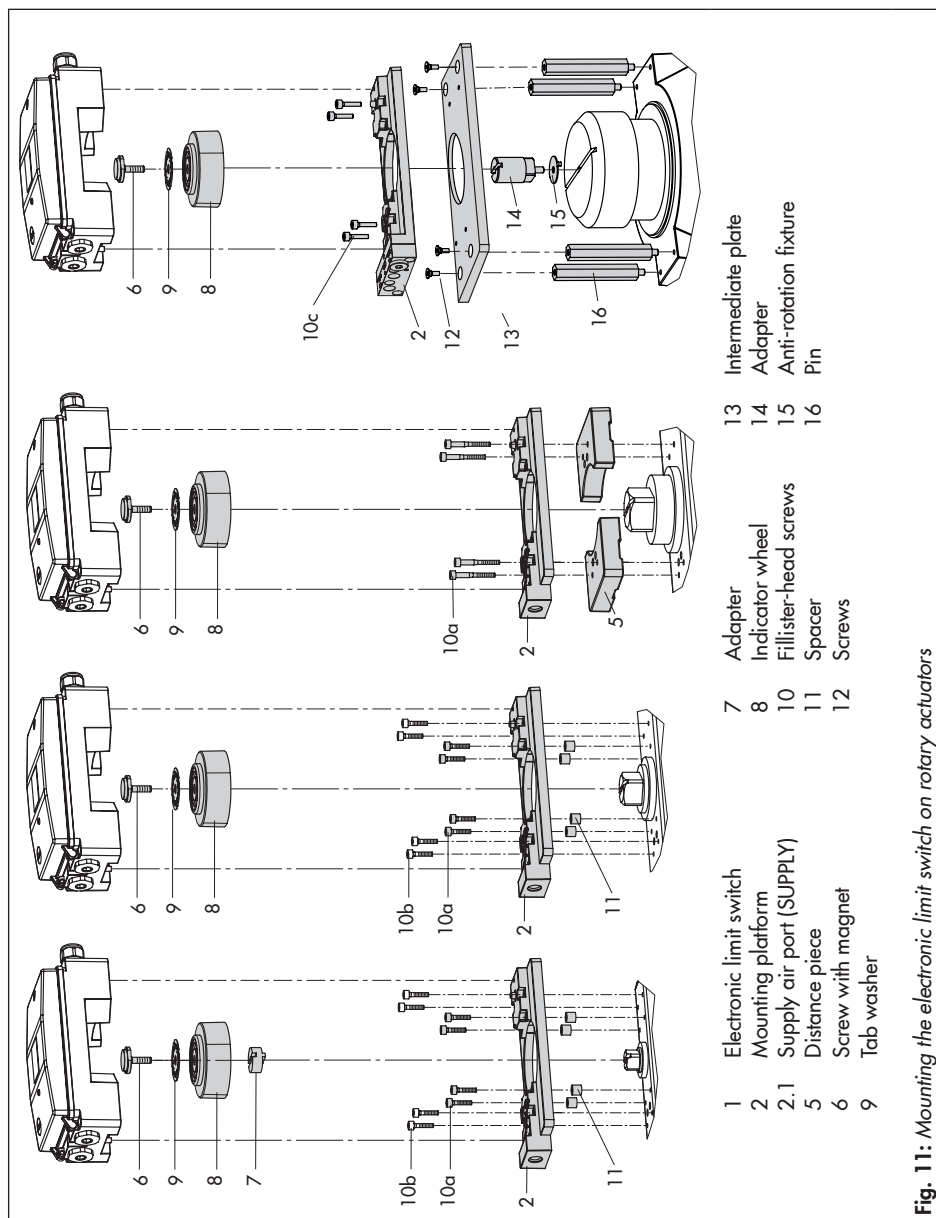

Fig. 11: Mounting the electronic limit switch on rotary actuators
The attachment depends on the shaft height of the rotary actuator upon which the electronic limit switch is to be mounted (Fig. 11).
- Fasten the mounting platform (2) on the rotary actuator:
- Fasten the screw with magnet (6) onto the actuator shaft.
- Bend the two flaps on the plate (9) towards the width flats of the screw with magnet (6).
- Place the electronic limit switch on the mounting platform (2) as shown in Fig. 11 and fasten it using the two screws mounted on the device.